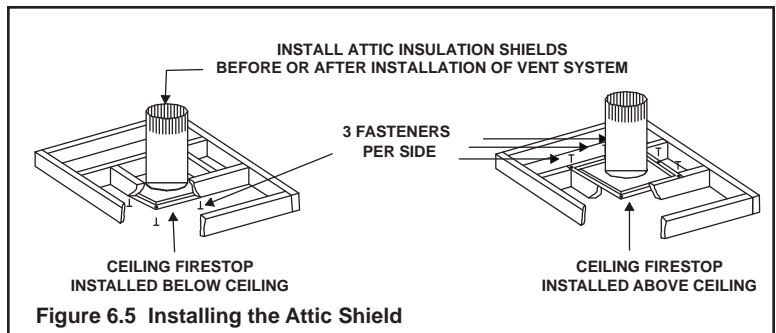

Figure 6.5 Installing the Attic Shield
- The ceiling firestop may be installed above or below the ceiling joists when installed with an attic insulation shield. It must be under joists between floors that are not insulated. See Figure 6.5.
- Secure with 3 fasteners on each side. See Figure 6.5.